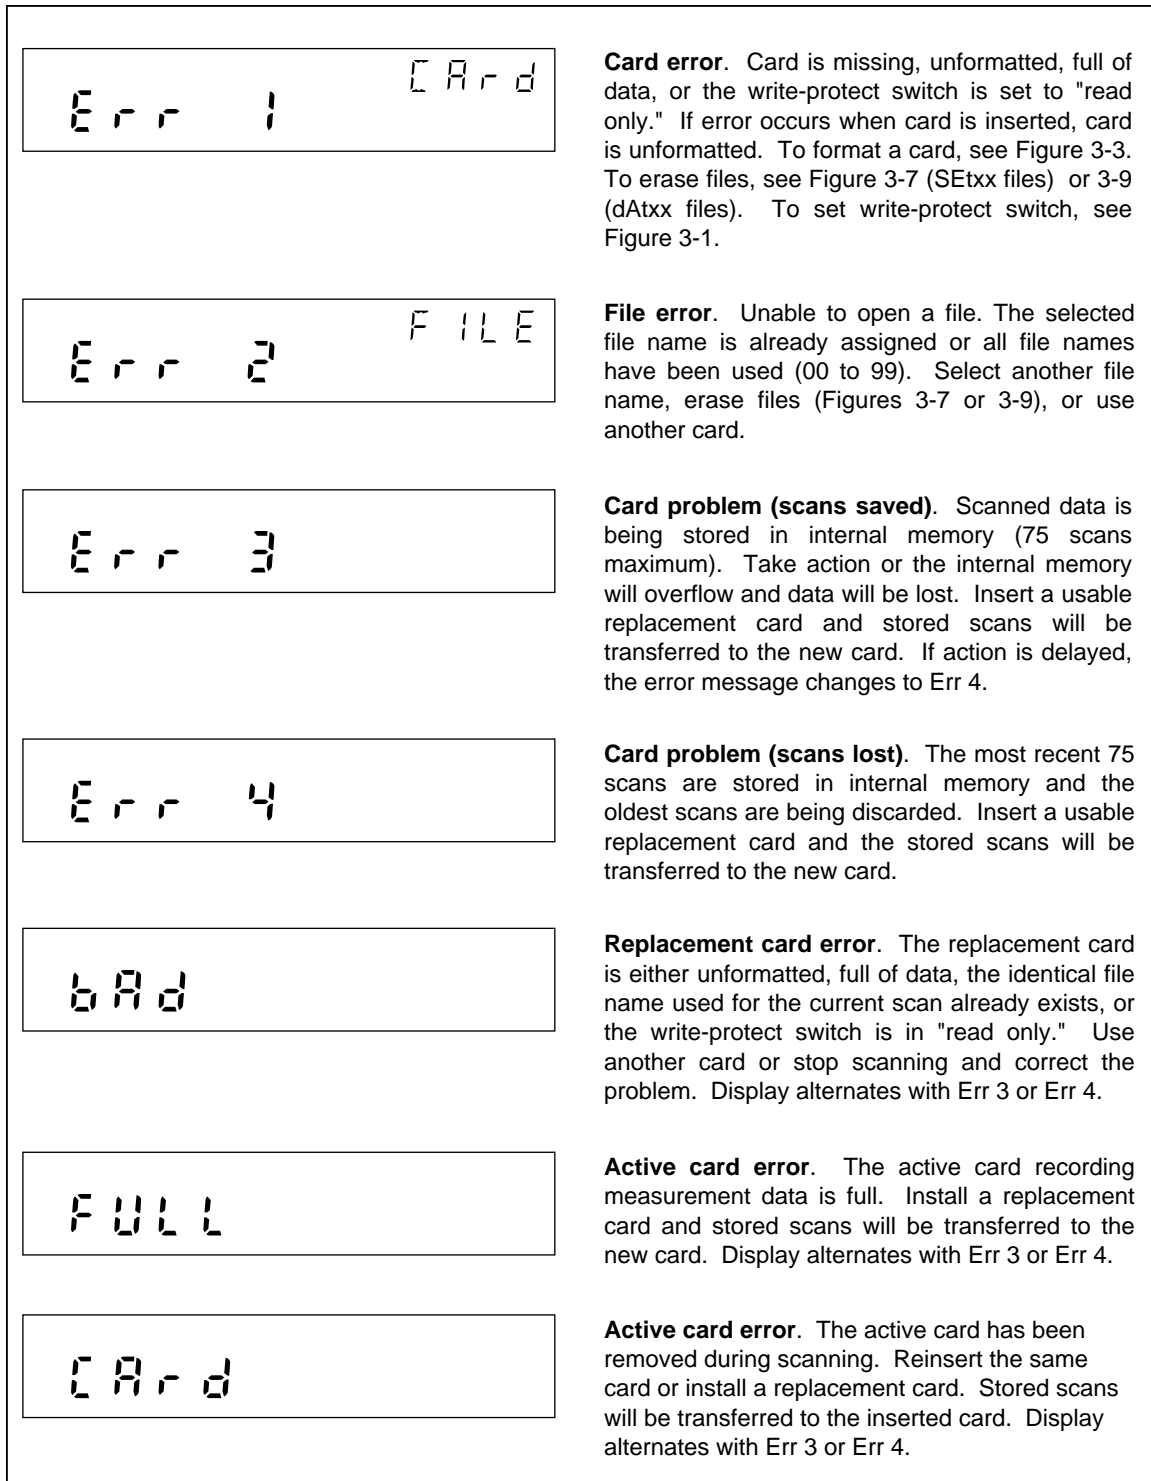
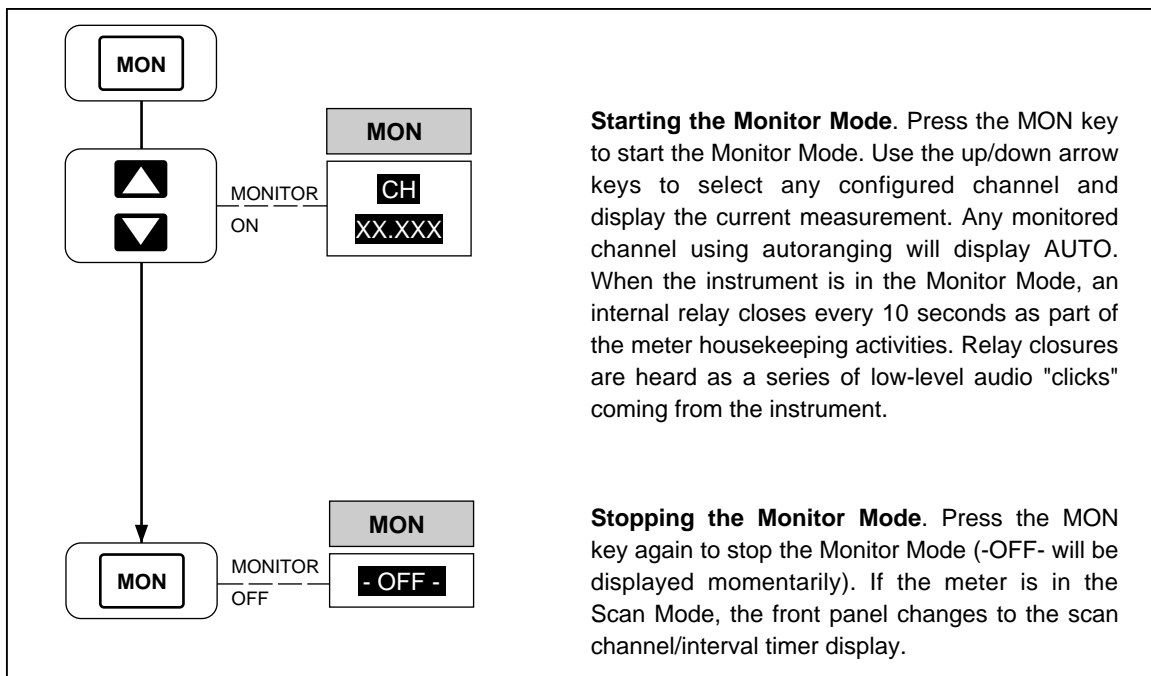
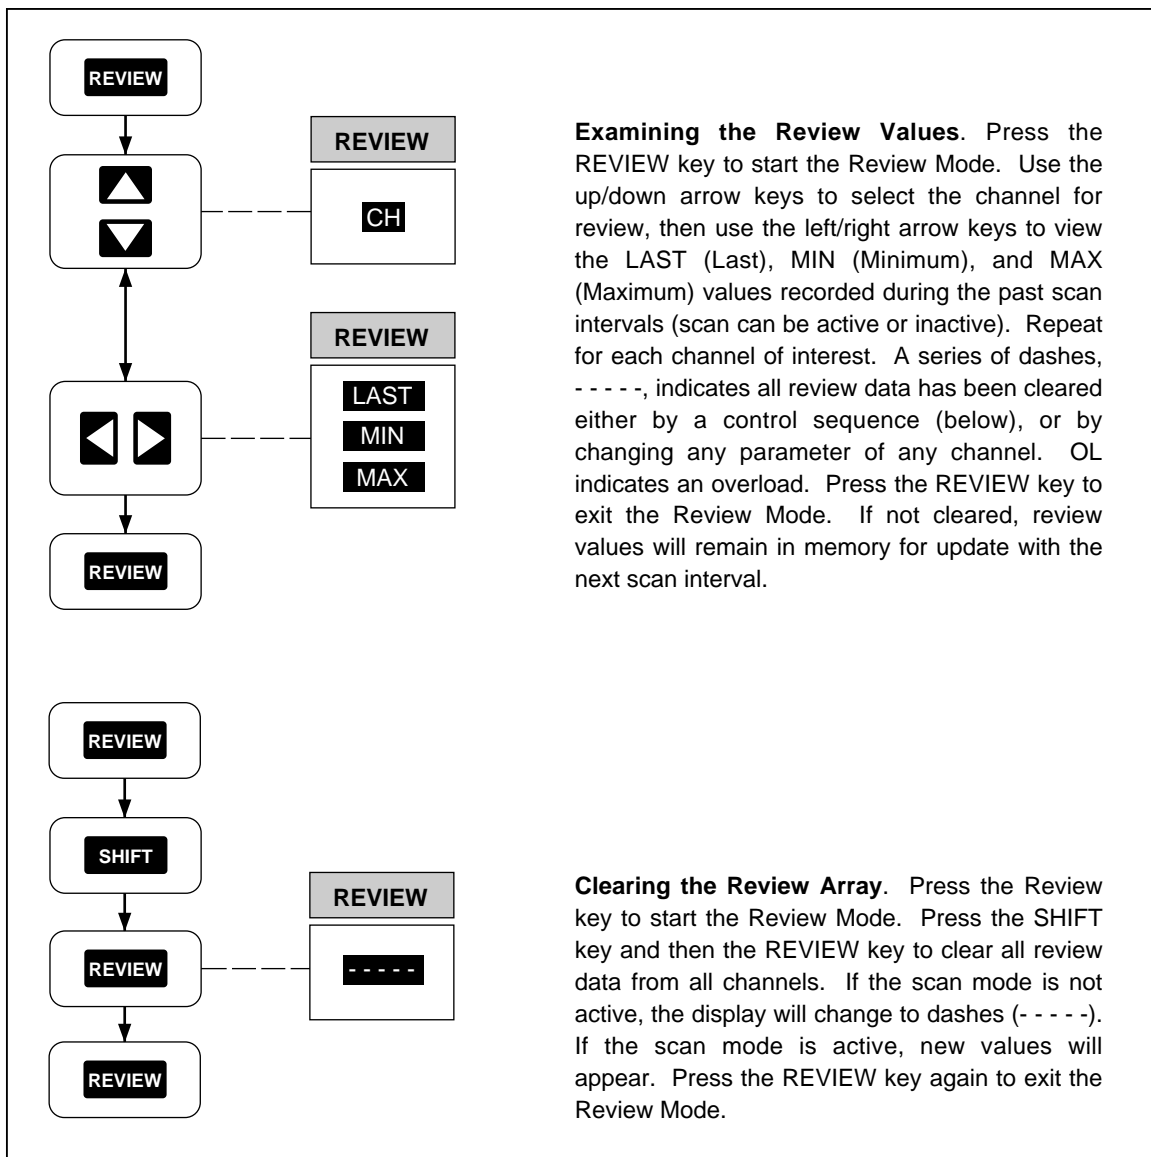

Figure 2-16. Memory Card Error Messages
Figure 2-17. Using the Monitor Mode
Figure 2-18. Using the Review Mode
If the channel being monitored is in an alarm condition, the alarm limit 1 and/or 2 annunciators will be turned on, and the ALARM annunciator blinks bright/dim. The alarm limit annunciator indicates which alarm has been exceeded. If the monitored channel is not in alarm, the ALARM annunciator will be off, unless scanning and some other channel is in alarm, then the ALARM indicator has a steady dim display. See Figure 2-17 for information about the Monitor Mode.
If the channel being reviewed had been in an alarm condition, the ALARM and alarm limit 1 and/or 2 annunciators will be turned on. The alarm limit annunciator indicates which alarm has been exceeded. See Figure 2-18 for information about the Review Mode.
- Using the Monitor Mode (Figure 2-17)
- Using the Review Mode (Figure 2-18)
Perform the procedure in Figure 2-15 to start and stop the Scan Mode of operation. The Scan Mode can be started when the instrument is inactive, in Monitor (Figure 2-17), or Review (Figure 2-18). Measurement results can be sent to a memory card (see Chapter 3, "Memory Card Operations") and PC (see Chapter 4, "Computer Operations") or printer (see Chapter 5, "Printer Operations"). When using the Scan Mode with a memory card, consider each of the following topics. (Memory card error messages are summarized in Figure 2-16.)
Any illegal memory card operation results in a double "beep" and an error display as shown in Figure 2-16. If the instrument is scanning and in the Monitor Mode or Review Mode, only the double beep will be heard for a memory card error. Error messages are acknowledged by pressing the **ENTER** key or by ejecting the memory card.
Perform the procedure in Figure 2-17 to start and stop the Monitor Mode of operation. The Monitor Mode can be started when the instrument is in the inactive mode or in the Scan Mode. The Monitor Mode commands the instrument to display the present measurement for any selected channel (except channels set to OFF) and to display alarm information if the channel is in alarm. If the Monitor Mode is used without the Scan Mode, the instrument operates like a multimeter. If the Monitor Mode is used with the Scan Mode, the instrument also operates like a multimeter but measurements can be recorded into memory, printed out, and reviewed (maximum, minimum, last values). The Monitor-Alarm triggering option uses the Monitor Mode to start or stop scans when a selected channel goes into or out of alarm (see Figure 2-19). If the instrument is in the Monitor Mode and scanning using the memory card, any illegal memory card operations are noted only with a double "beep." When you hear a double beep, exit the Monitor Mode and investigate the memory card error (see Figure 2-16).
Perform the procedure in Figure 2-18 to operate the Review Mode of operation. The Review Mode is used any time during or after operation of the Scan Mode. While the instrument is in the Scan Mode, the last, maximum, and minimum measurements for each scanned channel are stored in memory and updated with each scan, forming the Review Array. For example, during scan operations, **REVIEW** can be used to monitor the maximum measurement of a channel in real time. The Review Array is cleared by a control sequence (see Figure 2-18 below), or by changing any parameter of any channel or the measurement rate. The Review Array can be printed out using the **LIST** key (see Figure 5-4). If the instrument is in the Review Mode and scanning using the memory card, any illegal memory card operations is noted only with a double "beep." If a double beep is heard, exit the Review Mode and check the memory card error (see Figure 2-16).